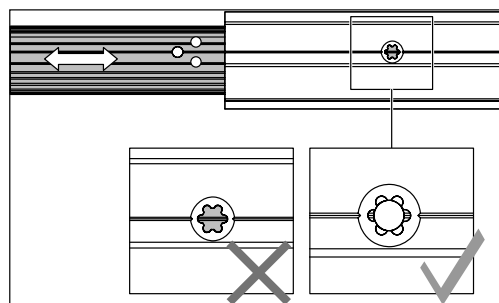

Fig. 24 Slide the lining profile along
3. Insert the lining profile into the counter profile in such a way that the pre-drilled holes of the lining profile and the track are lined up with each other (Fig. 24).